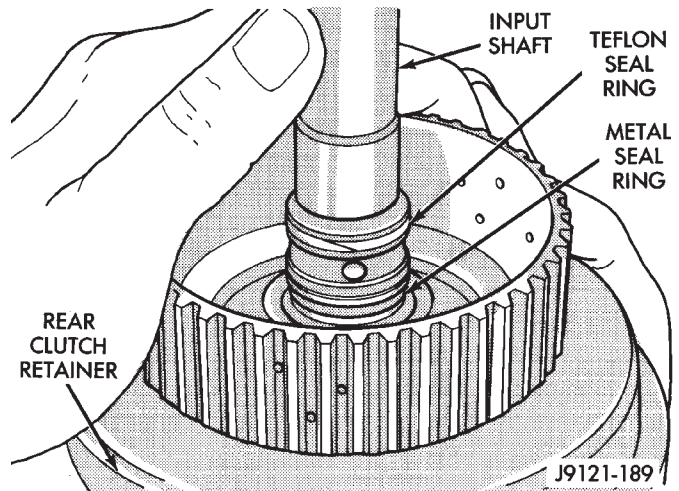

Fig. 113 Input Shaft Seal Ring Location
(11) Check seal ring on rear clutch retainer hub and seal rings on input shaft (Fig. 113). Also verify that shaft seal rings are installed in sequence shown.